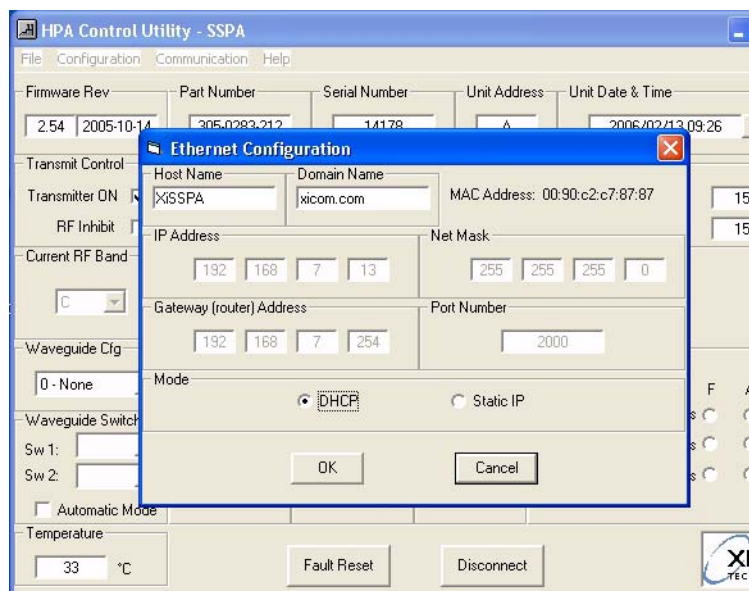

Figure 11, Ethernet Configuration
9. Refer to Figure 11 on page 12. The “Configuration -> Ethernet Configuration” menu allows the selection of the network Host and Domain names, and allows configuration of the IP Address